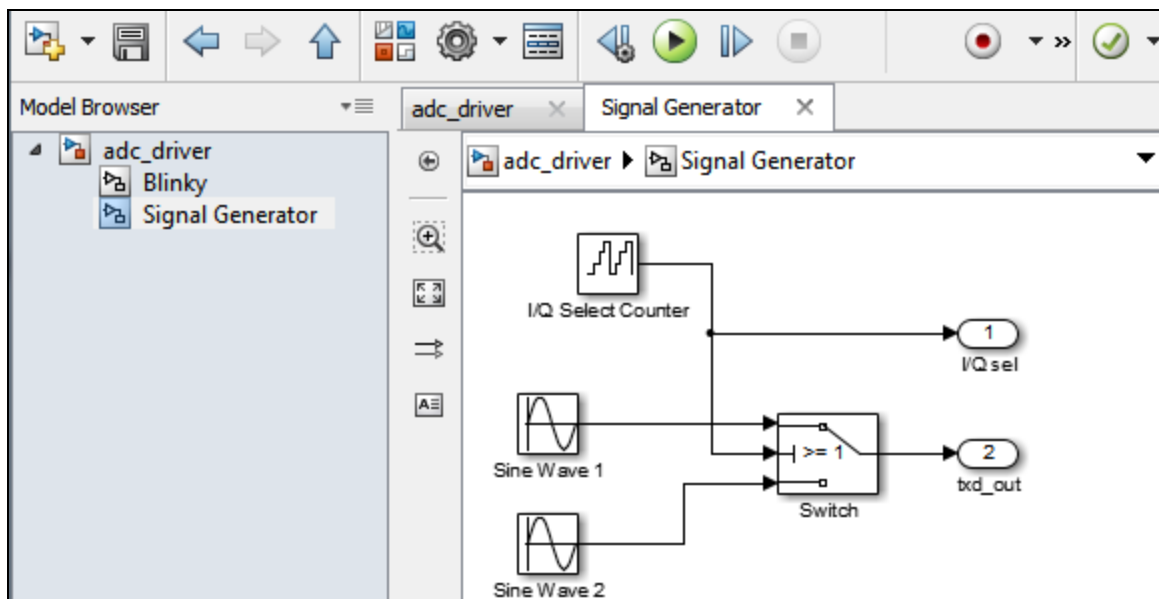

Figure 1-4: Signal Generator Subsystem
- The **Signal Generator** subsystem shown in Figure 1-4 is used to test the functionality of the ADC driver.